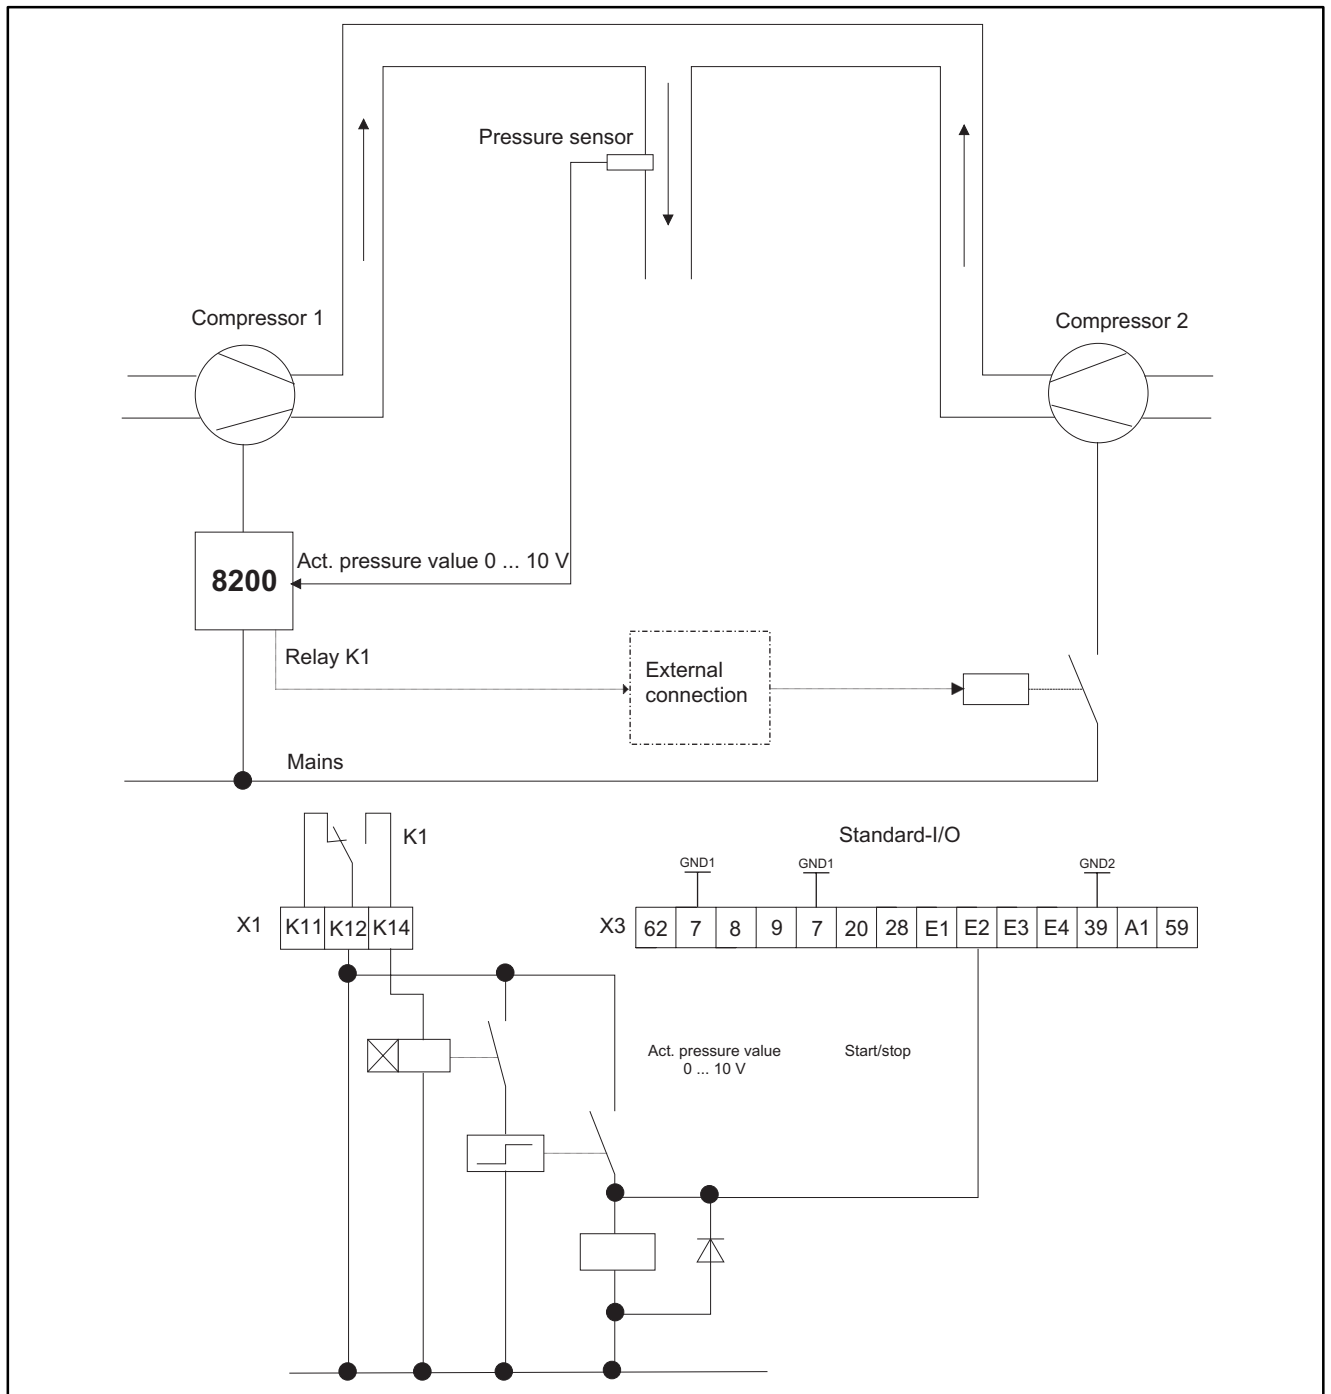

Fig. 13-5 Principle of sequential circuits
With the function module application I/O it is not necessary to use the external time delay element of Fig. 13-5. The time delay for the relay output K1 is set under C0423/1. The time delay avoids that compressor 2 is switched on when the actual value fluctuates just a little bit.
**Function: Fig. 13-5**